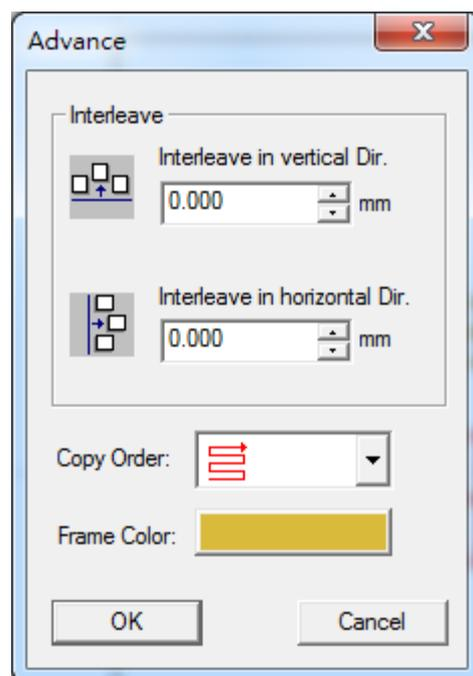

Fig. 3.3.27
**Advance:** Further settings for matrix, see Fig.3.3.27.